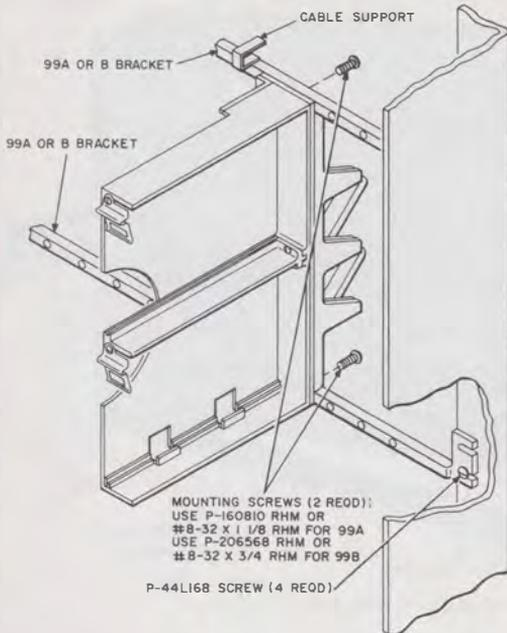

Fig. 7—69-Type Apparatus Mounting on a 99A (MD) or 99B Bracket
by using a 99A (MD) or 99B bracket. The 99-type bracket consists of two 28-inch bars which mount on the 16C apparatus mounting frame. The upper bar has cable supports to retain the connector cables. Fig. 7 shows a 69-type apparatus mounting on a 99-type bracket. Mounting screws for the 99B bracket are furnished loose. Screws for the 99A bracket are ordered separately.